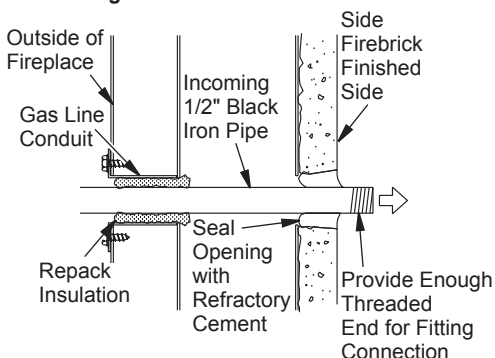

**Figure 24 - Gas Line Access**
1. Remove knockout indentation on refractory or firebrick wall located above refractory hearth floor. Knockout indentation must be firmly tapped with any solid object such as a 1/2" dowel until it is released. Remove fragmented portions of refractory (see Figure 24).